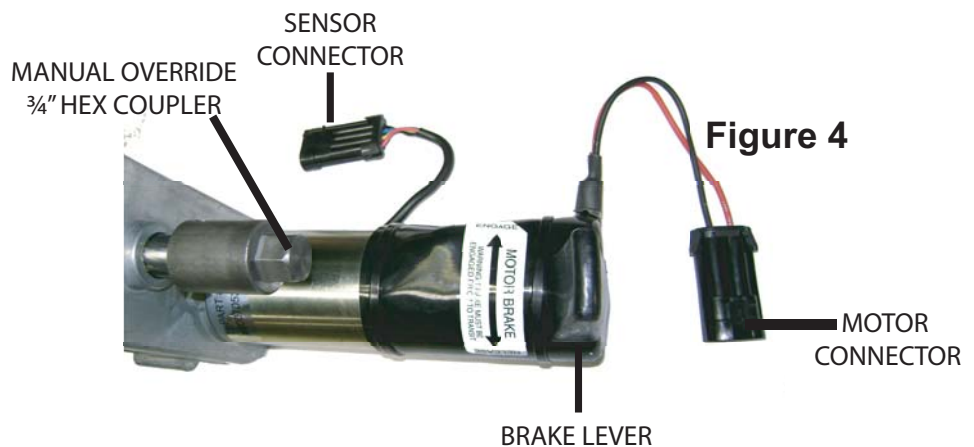

Figure 4
1. Locate each motor and $\frac{3}{4}$ " hex coupler. (Figure 4)